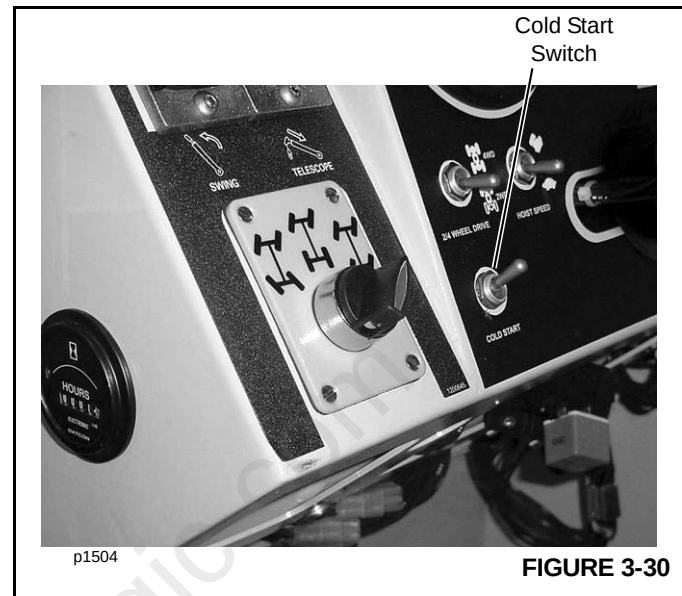

FIGURE 3-30
1. Push down and then release the cold start switch on the instrument panel (see Figure 3-30) to inject a metered amount of fluid into the engine. Turn the ignition switch to the START position to crank the engine.